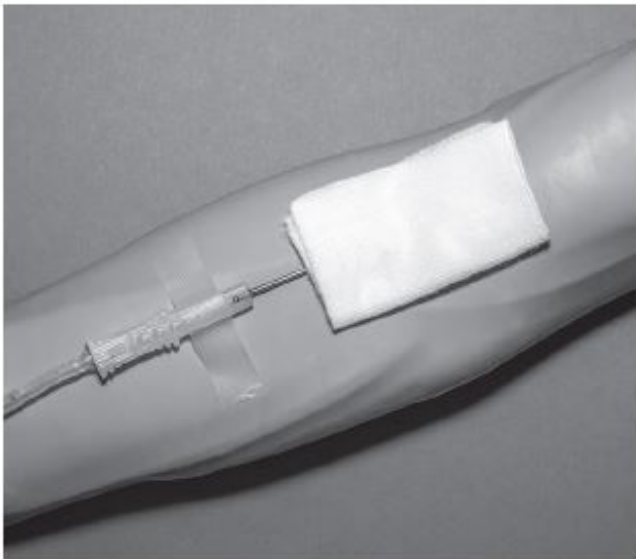

Figure 1
7. When good blood flow is established, stabilize the front of the needle guard to arm with tape (see Figure 1).